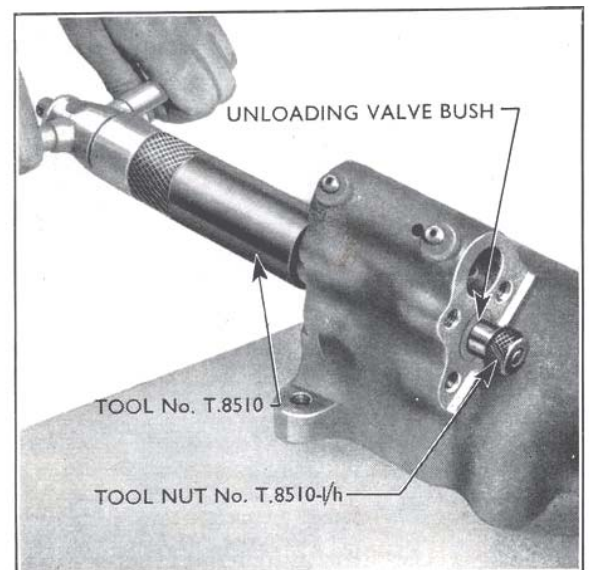

Fig. 23
11. Pass the extension through the unloading valve bushes, attach the nut, locating it squarely against the rear end of the rear bush, and withdraw both bushes from the cylinder in one operation. (See Fig. 23.)